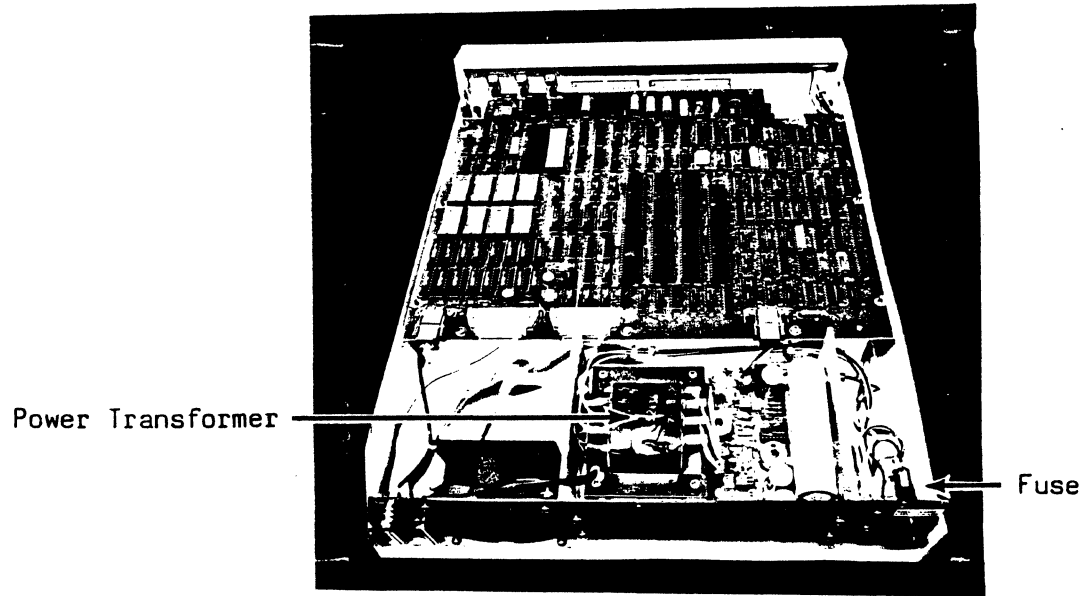

Figure 3-1. High Voltage Areas - Rear
- b. The top cover of the unit must not be removed while the unit is connected to a power receptacle. Hazardous voltages exist around the power transformer, the fuse and the power switch. These areas are shown in Figures 3-1 and 3-2.